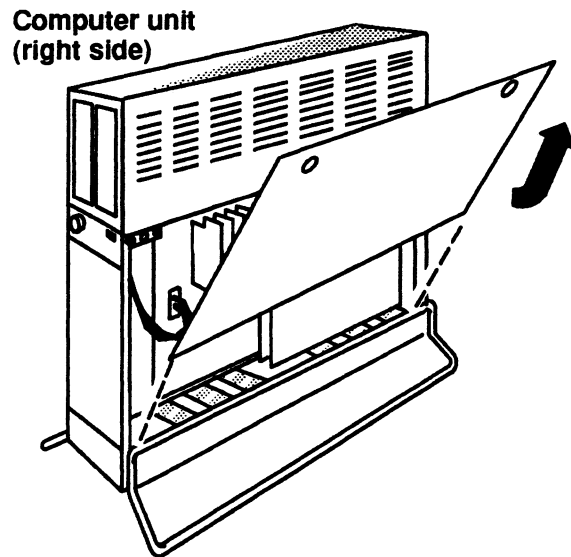

Figure 1-8 Removing the Side Covers
2. While supporting the side cover, lift it up and away from the computer unit as shown in Figure 1-8.